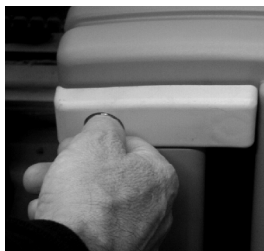
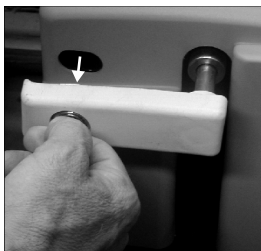

Fig.1
Fig.2
- 1) Insert the supplied key into the lock (Fig. 1), turn it clockwise and pull the release handle outwards (Fig. 2).